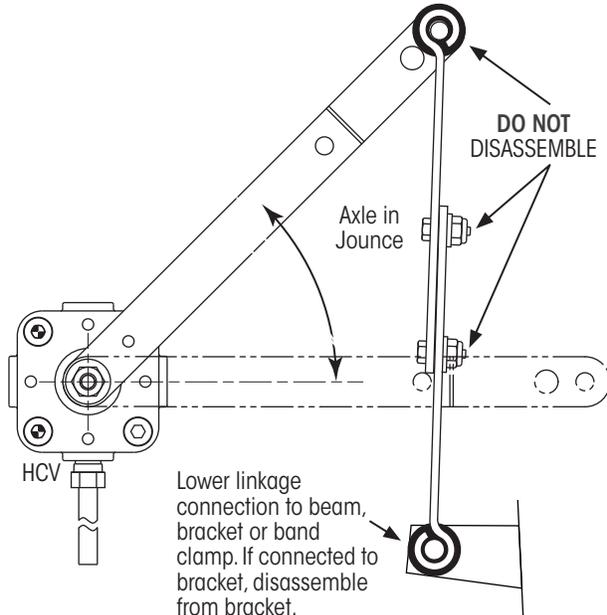

Figure 1: HCV linkage lower connection
- B. **Remove** HCV linkage (Figure 1) from the lower connection only. **DO NOT disassemble linkage.**